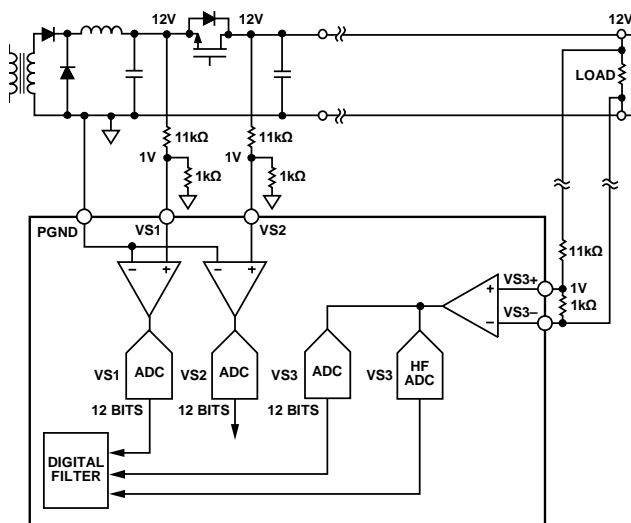

Figure 17. Voltage Sense Configuration
VS1 is used for the monitoring and protection of the power supply voltage at the output of the LC stage, upstream of the OrFET. The VS1 sense point on the power rail needs an external resistor divider to bring the nominal input voltage to 1 V at the VS1 pin (see Figure 17). The resistor divider is necessary because the VS1 ADC input range is 0 V to 1.6 V (12-bit reading). This divided-down signal is internally fed into a low speed Σ - Δ ADC. The output of the VS1 ADC goes to the digital filter and is also updated in Register 0x15 every 10 ms. The VS1 signal is referenced to PGND. When the OrFET is turned off, the power supply is regulated from the VS1 sense point instead of the VS3± sense point.
VS2 is used in conjunction with VS1 to control the OrFET gate drive turn-on. The VS2 sense point on the power rail needs an external resistor divider to bring the nominal common-mode signal to 1 V at the VS2 pin (see Figure 17).
VS3± is used for the monitoring and protection of the remote load voltage. VS3± is a fully differential input that is the main feedback sense point for the power supply control loop. The VS3± sense point on the power rail needs an external resistor divider to bring the nominal common-mode signal to 1 V at the VS3± pins (see Figure 17). The resistor divider is necessary because the VS3 ADC input range is 0 V to 1.6 V. This divided-down signal is internally fed into a high frequency (HF) ADC. The output of the VS3 ADC goes to the digital filter and is also updated in Register 0x17 every 10 ms. The HF ADC is also the high frequency feedback loop for the power supply.